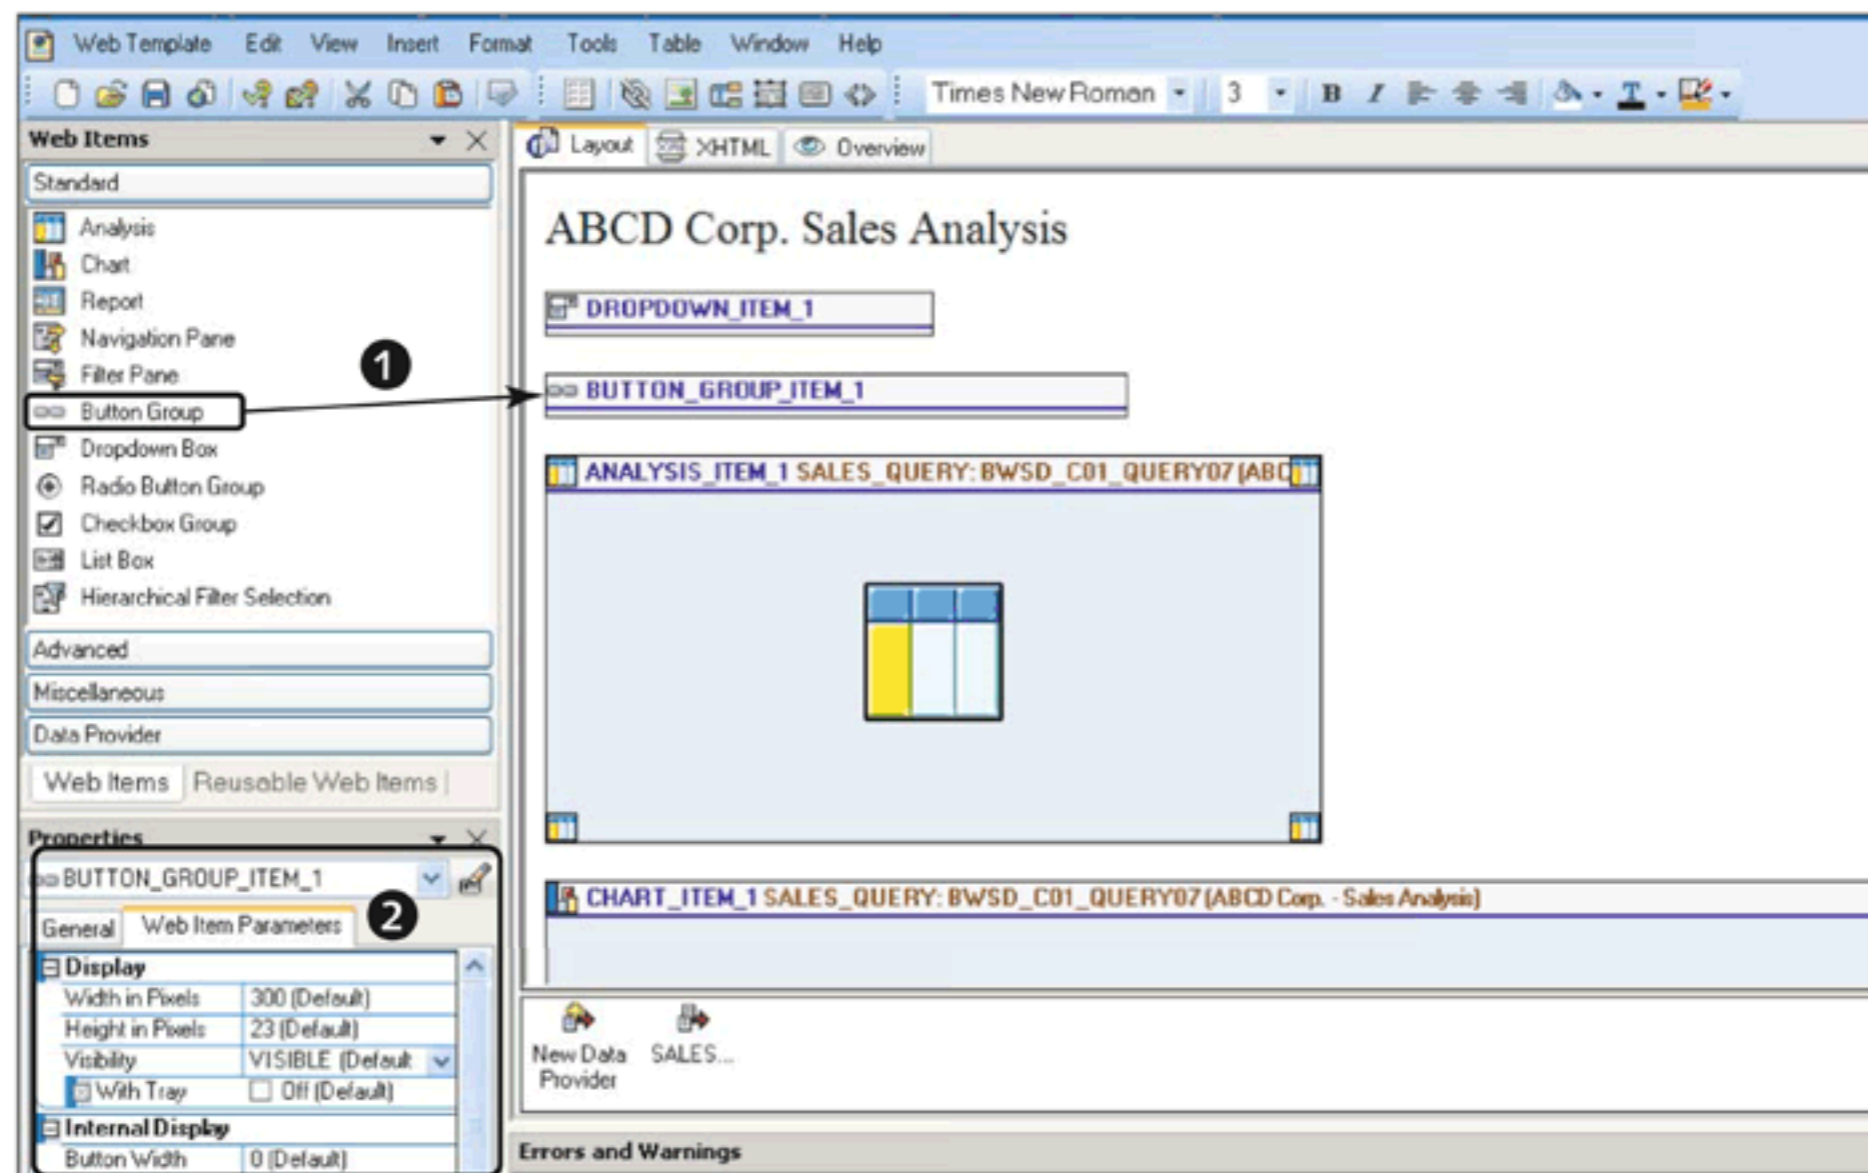

Figure 11.11 Add Button Web Item
To add a button in the web template, drag the BUTTON GROUP web item from the WEB ITEMS area into the layout, as shown in ❶ Figure 11.11. Then go to the WEB ITEM PARAMETERS tab for the button group to configure the button group (❷).